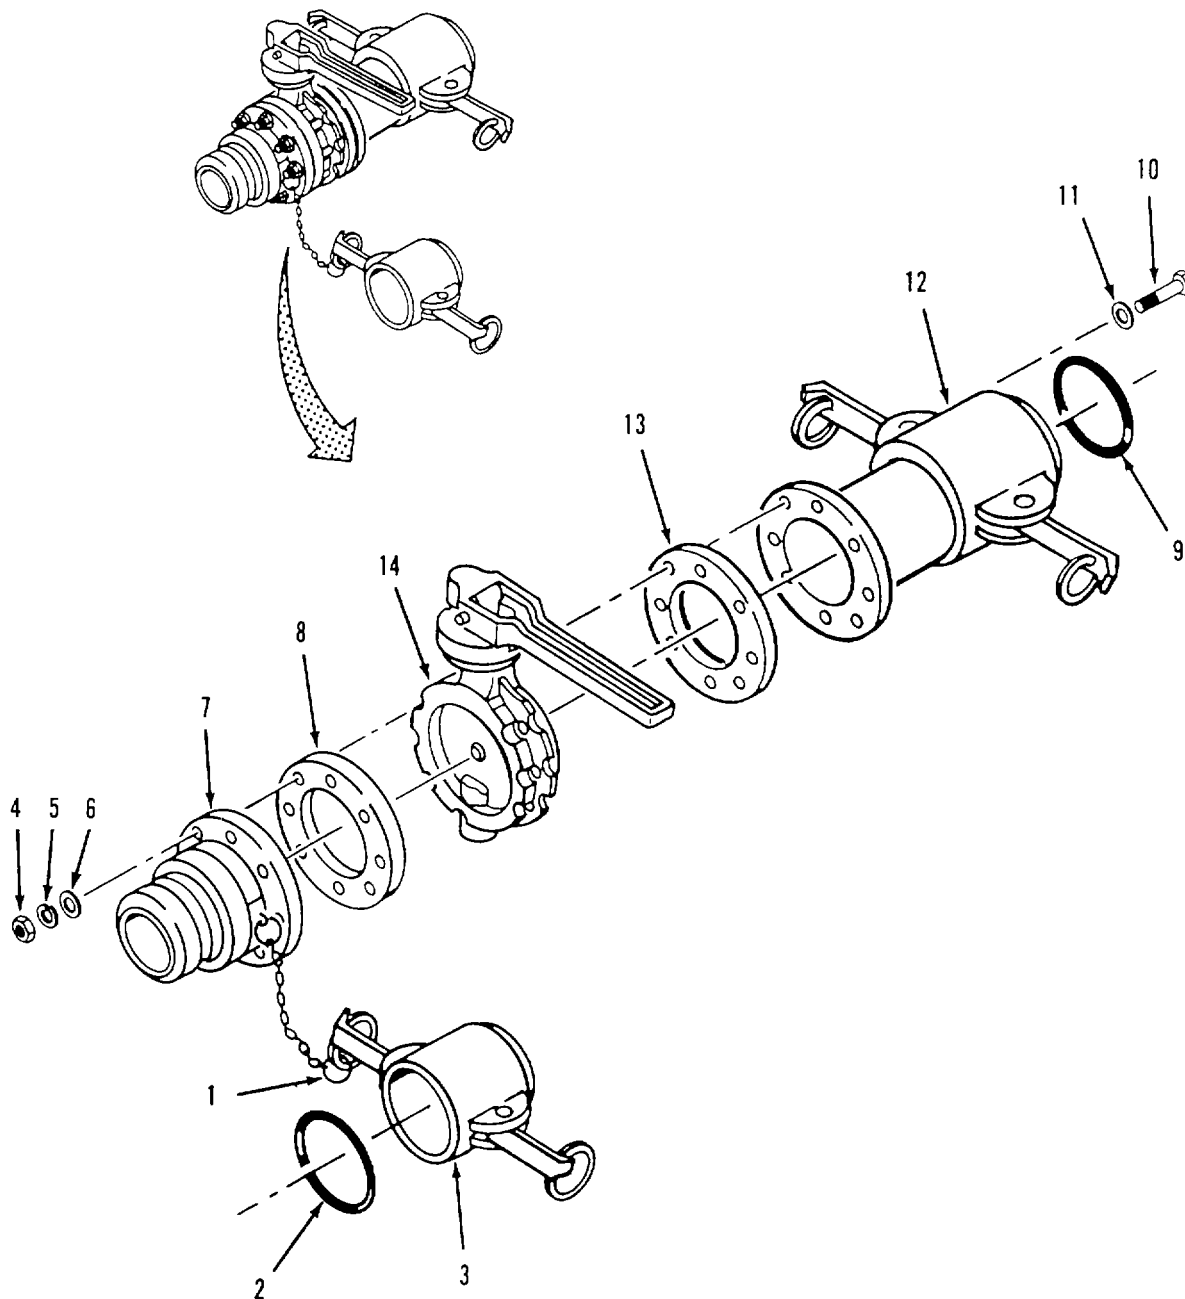

Figure 4-16. Butterfly Valve Disassembly.
Butterfly valve removal. Refer to figure 4-16.
- (1) Inspect male coupling (7, figure 4-16), female coupling (12) and cap (3) for cracks and corrosion.
Butterfly valve installation. Refer to figure 4-16.